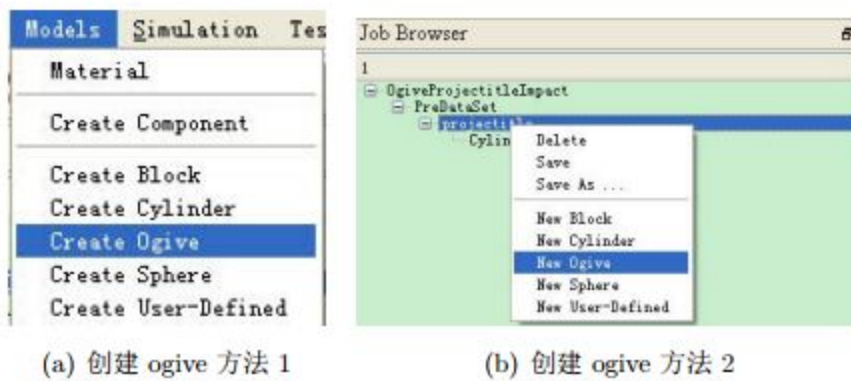

图 5.12: 新建卵形体
b. Click Models-> Create Ogive, or right click PreDataSet to select New Cylinder to create Oval, as shown in Figure 5.12 (a) and Figure 5.12 (b).